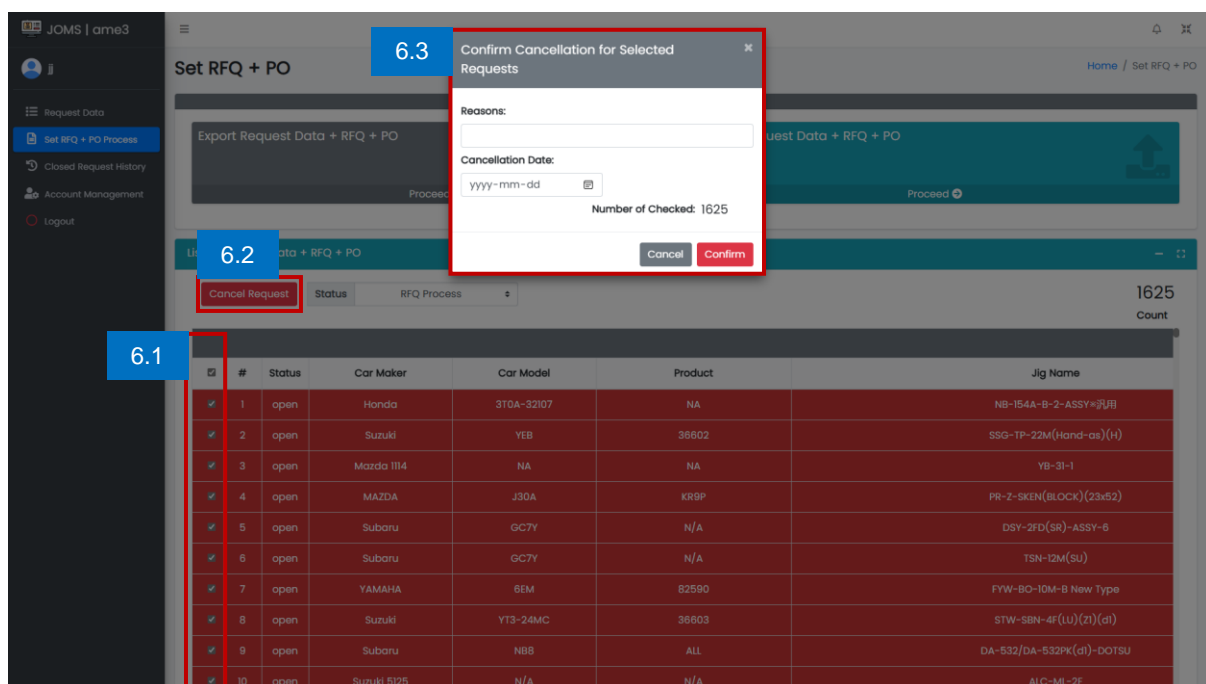

Figure 18. AME3 Request Cancellation
6.1 To cancel, select the checkbox of item that needs to be cancelled. (See Figure 18)
6.2 Click the Cancel Request button to show the Cancellation for Selected Request. (See Figure 18)
6.3 Provide cancellation reason and cancellation date then, click the Confirm button. (See Figure 18)